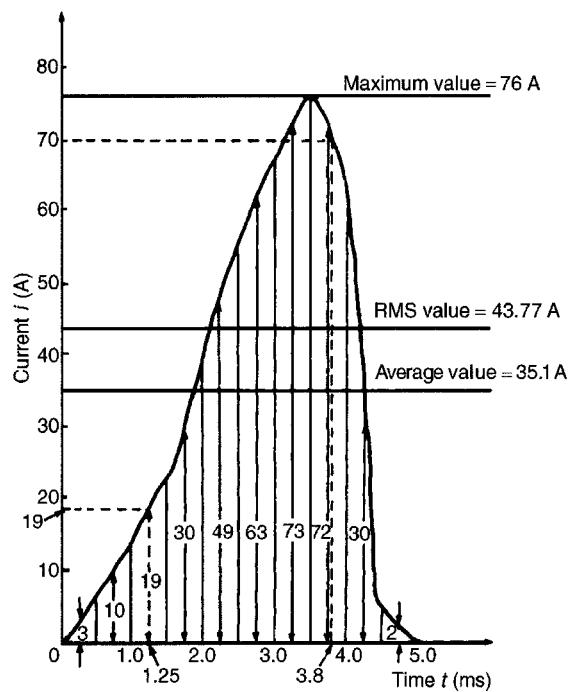

Figure 14.6
The half cycle of alternating current is shown plotted in Fig. 14.6
- (b) Instantaneous value of current after 1.25 ms is **19 A**, from Fig. 14.6. Instantaneous value of current after 3.8 ms is **70 A**, from Fig. 14.6
$$\begin{aligned} \text{area under curve} &= (0.5 \times 10^{-3})[3 + 10 + 19 + 30 \\ &\quad + 49 + 63 + 73 + 72 + 30 + 2] \\ &\quad (\text{see Fig. 14.6}) \\ &= (0.5 \times 10^{-3})(351) \end{aligned}$$